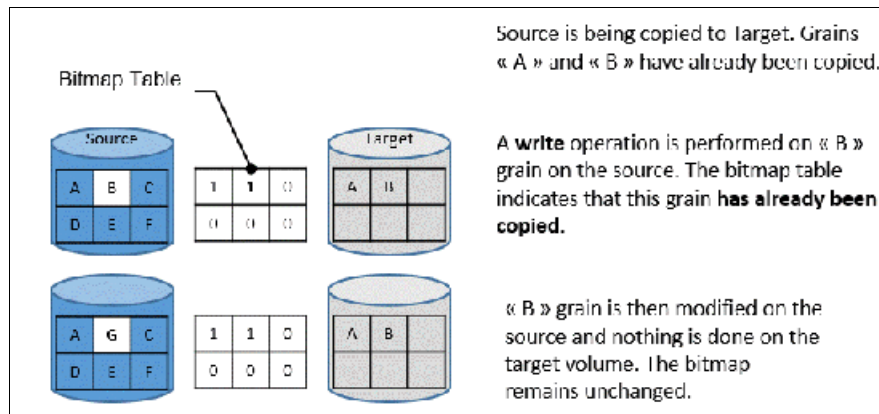

Figure 10-5 Modifying an already copied grain on the source
- ▶ If the bitmap indicates that the grain was copied, the source grain is changed and the target volume and the bitmap table remain unchanged, as shown in Figure 10-5.